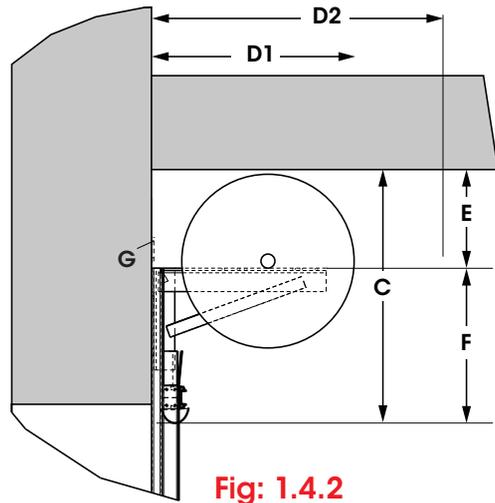

Fig: 1.4.2
**headroom** - A minimum headroom is required for all doors. Refer to **Fig 1.4.2 - 1.4.5** for measurements. If the door is installed lower into the opening than shown in Fig 1.4.2, additional loss of door opening height will result.
**backroom** - A minimum of 460mm of backroom is required for R2L doors up to 2400mm. For other doors, refer to **Fig 1.4.2 - 1.4.5** for measurements.